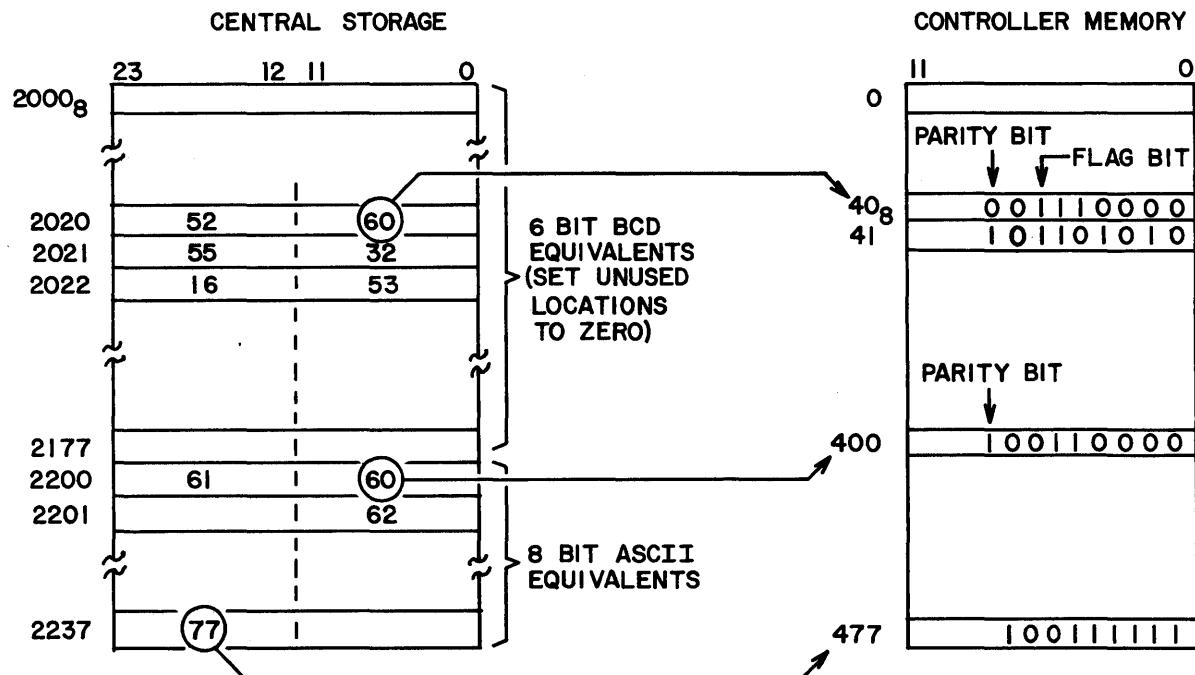

Figure 4-1. Load Memory Example
- Set up tables in central storage as shown in Figure 4-1.